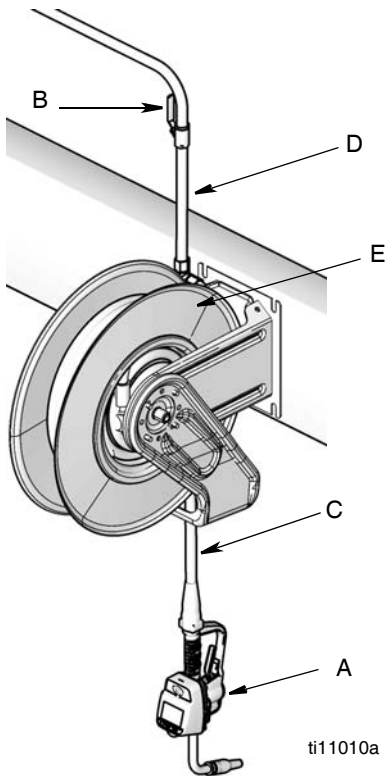

FIG. 1
Typical Installations (FIG. 1)
The typical installation shown in FIG. 1 is only a guide. It is not a complete system design. Contact your Graco distributor for assistance in designing a system to suit your needs.
2. Close the shut-off valve (B, FIG. 1).
1. Close the fluid shut-off valve (B, FIG. 1, page 8) at each dispense position.